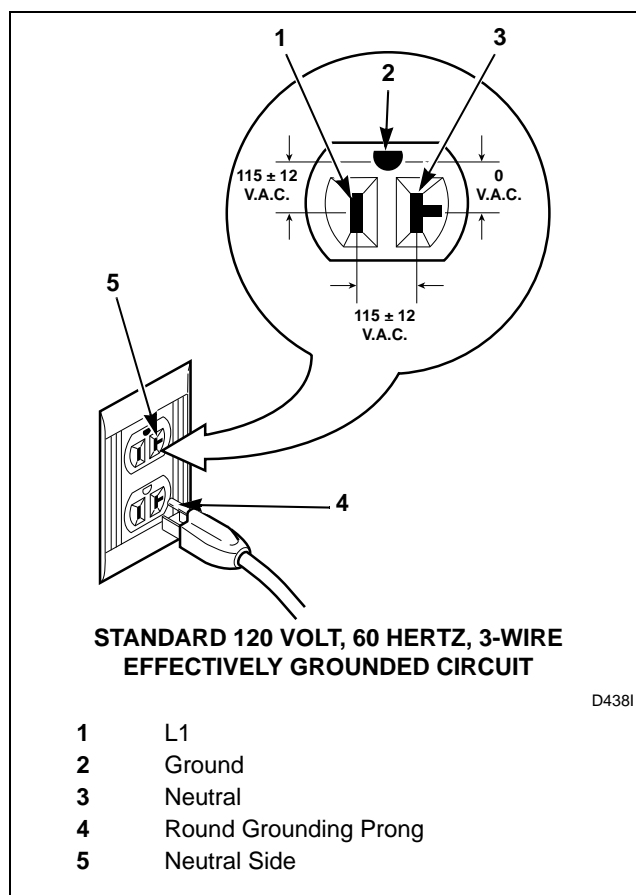

Figure 18
- The three-prong grounding plug on the power cord should be plugged directly into a polarized three-slot effectively grounded receptacle rated 120 Volts AC (alternating current) 20 Amps. Refer to *Figure 18* to determine correct polarity of the wall receptacle.